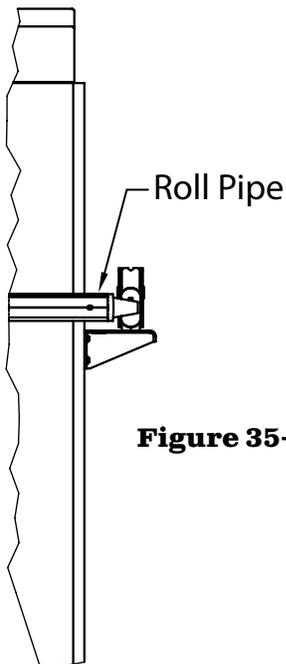

Figure 35-1
- 1) **Figures 35-1 & 35-2.** Cut down the roll pipe so that when the rear arm adapter is installed the chain is aligned with the rear arm.